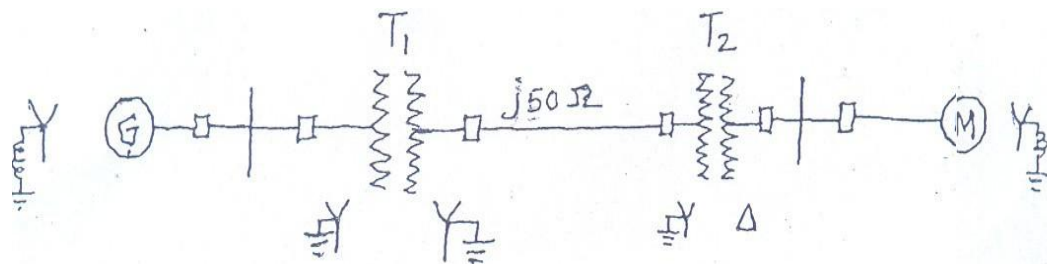

Fig. 1
1. Draw the reactance diagram for the power system shown in Fig.1. Neglect resistance and use a base of 100 MVA, 220 kV in 50 Ω line. The ratings of the generator, motor and transformer are given below.